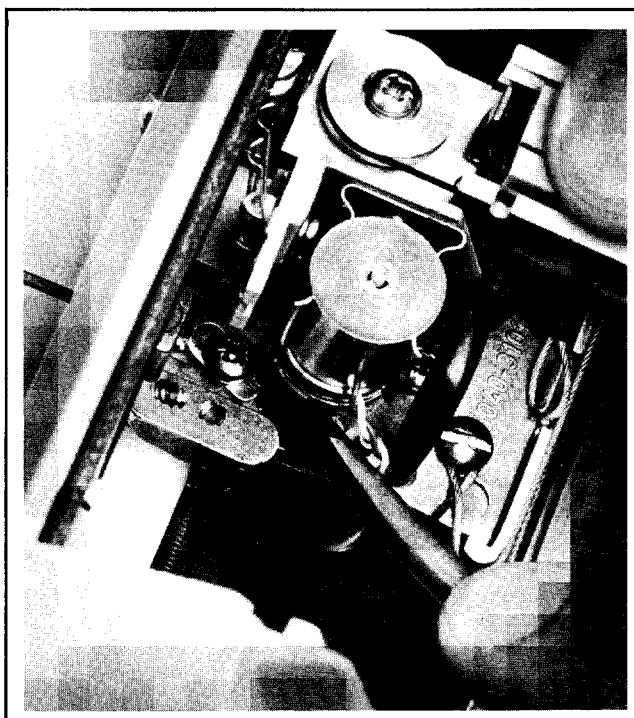

FIGURE 3-17. Y-AXIS GEAR TRAIN BACKLASH ADJUSTMENT
- e. Lightly pushing idler gear toward pen drive, turn adjusting screw in or out to attain minimum backlash between the two gears (see Figure 3-17).